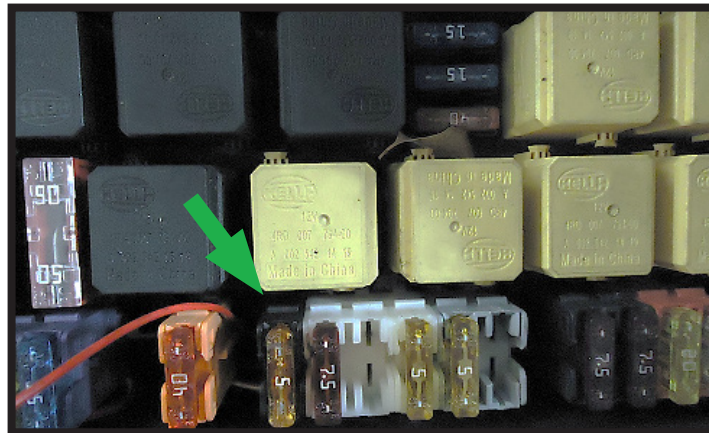

FIGURE 43
5. LOCATE AN AVAILABLE SWITCHED IGNITION POWER SOURCE IN THE FUSE PANEL, AND INSTALL THE FUSE HOLDER (12+V). (FIGURE 43)